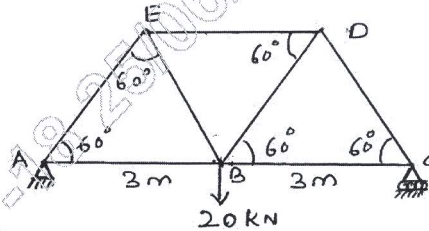

Fig.Q4(b)
- b. For the pin-jointed frame shown in Fig.Q4(b), determine vertical deflection under the load, using unit-load method. Cross-sectional area of each member is $500 \times 10^{-6} \text{m}^2$ and Young's modulus is $2 \times 10^8 \text{kN/m}^2$. (14 Marks)